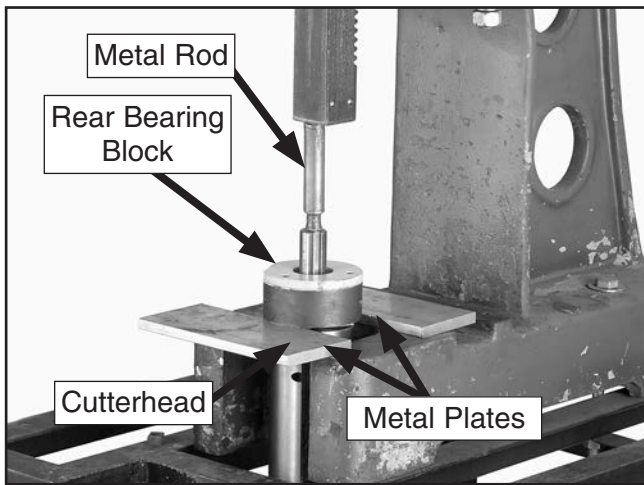

Figure 13. Preparing to remove rear bearing block.
- Place the cutterhead in an arbor press. Insert a metal rod between the press and the cutterhead shaft, and place metal plates between the cutterhead and rear bearing block, as shown in **Figure 13**, to support it.